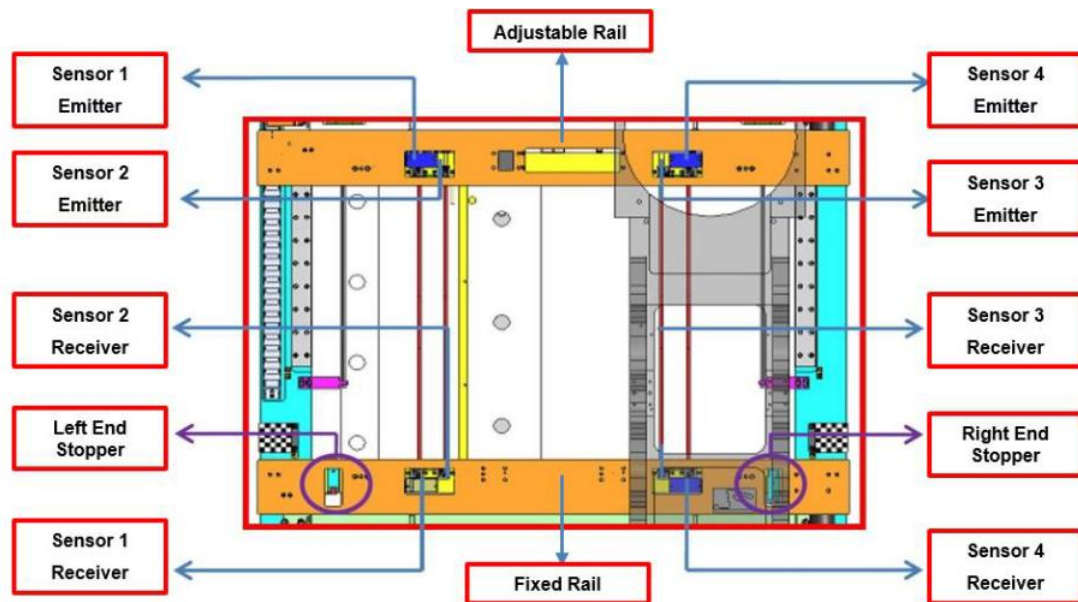

Figure 1 Optical PIP Sensor Location (Graphic)
1. Locate Identical Optical PIP Sensor from Figure 1.